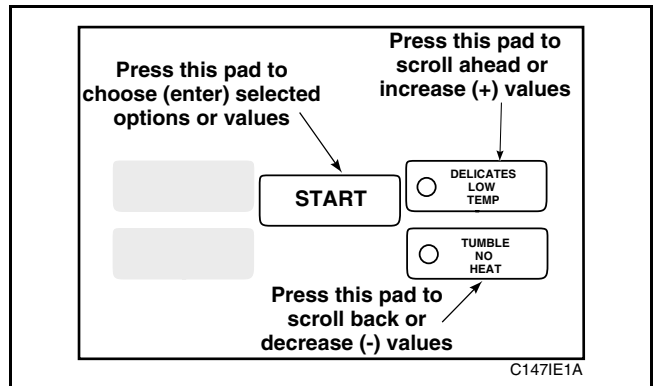

Figure 93
5. Press the LOW TEMP (+) pad or the NO HEAT (-) pad to increase or decrease the month until correct, *Figure 93*.